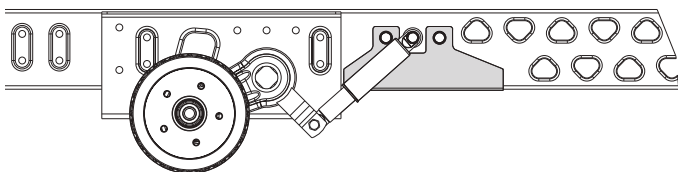

Fig. 14
- Suitable for caravans up to 1500 kg with Knaus Tabbert Dyonic chassis AB3 with a frame thickness of less than 2.8 mm (Fig. 14).